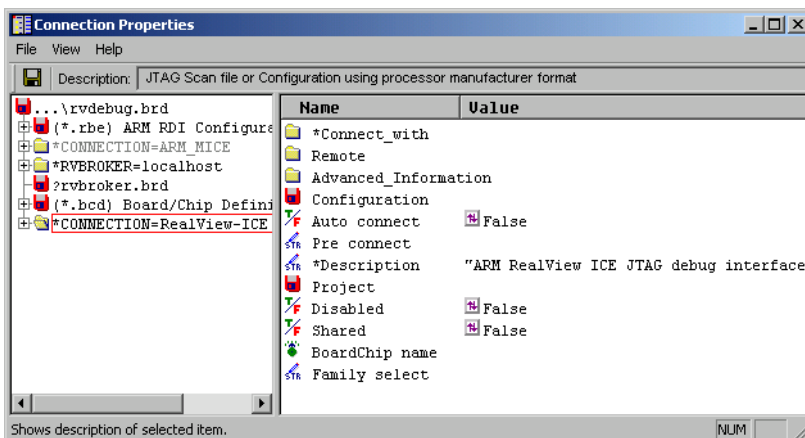

Figure 3-2 CONNECTION groups in the Connection Properties window
4. Select **Connection Properties...** from the context menu to display the Connection Properties window, shown in Figure 3-2 on page 3-9.